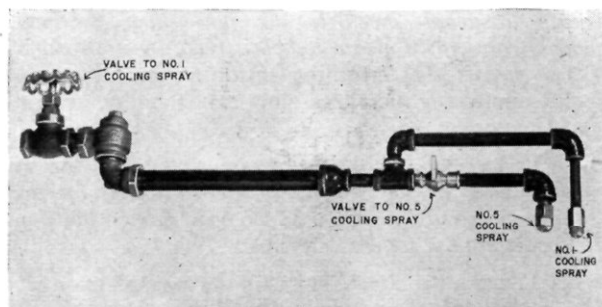

Figure 16.—External cooling sprays.
1. Open valve to the No. 1 cooling spray quickly and fully to get a fine mistlike spray. (Fig. 16.)